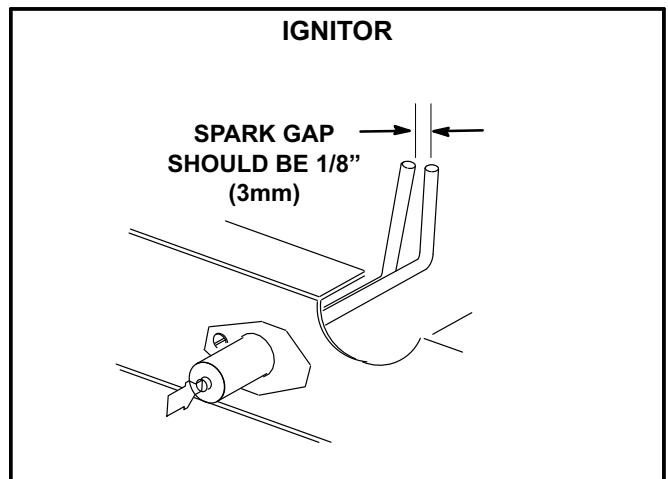

FIGURE 25
- 5- Locate the ignitor under the right burner. Check ignitor spark gap with appropriately sized twist drills or feeler gauges. See figure 25.